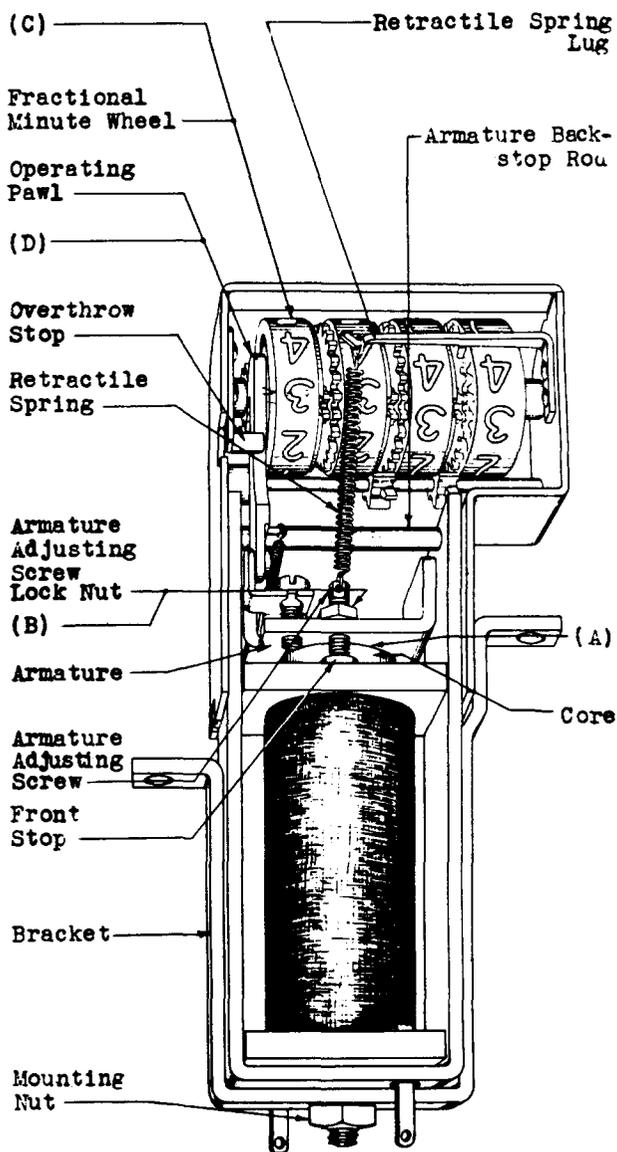

Fig. 2
**2.05 Armature Air-gap:** Fig. 2(A) — With the armature in its operated position, the clearance between the end of the core and the under side of the armature shall be:
**2.06 Tightness of Lock Nut:** Fig. 2(B) — The armature adjusting screw locknut shall be sufficiently tight to hold the screw in any adjusted position.
**2.07 Back Lash:** Fig. 2(C) — The fractional minute wheel shall have a noticeable forward and backward movement or "back lash." The back lash shall not be sufficient to allow the top of any figure to lie above the top edge of the cap window or the bottom of any figure to lie below the bottom edge of the cap window when viewed from a position which the operator would normally occupy.
Fig. 2(D) — The operating pawl shall not bind on its bearing or against the side of the fractional minute wheel. If the pawl touches the fractional minute wheel, due to side play in the pawl, but can be made to stand away from the wheel it shall not be considered as binding against the wheel.